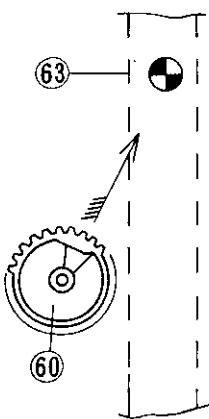

Figure 14
When Cam (60) is replaced, make sure that the depressed part on the cam should be mounted facing with the Tonearm (63) (Fig. 14).